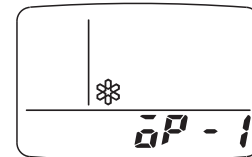

Fig. 10
- d) ✱ appears with “oP-1” blinking in the remote controller clock display area. (Fig. 10)